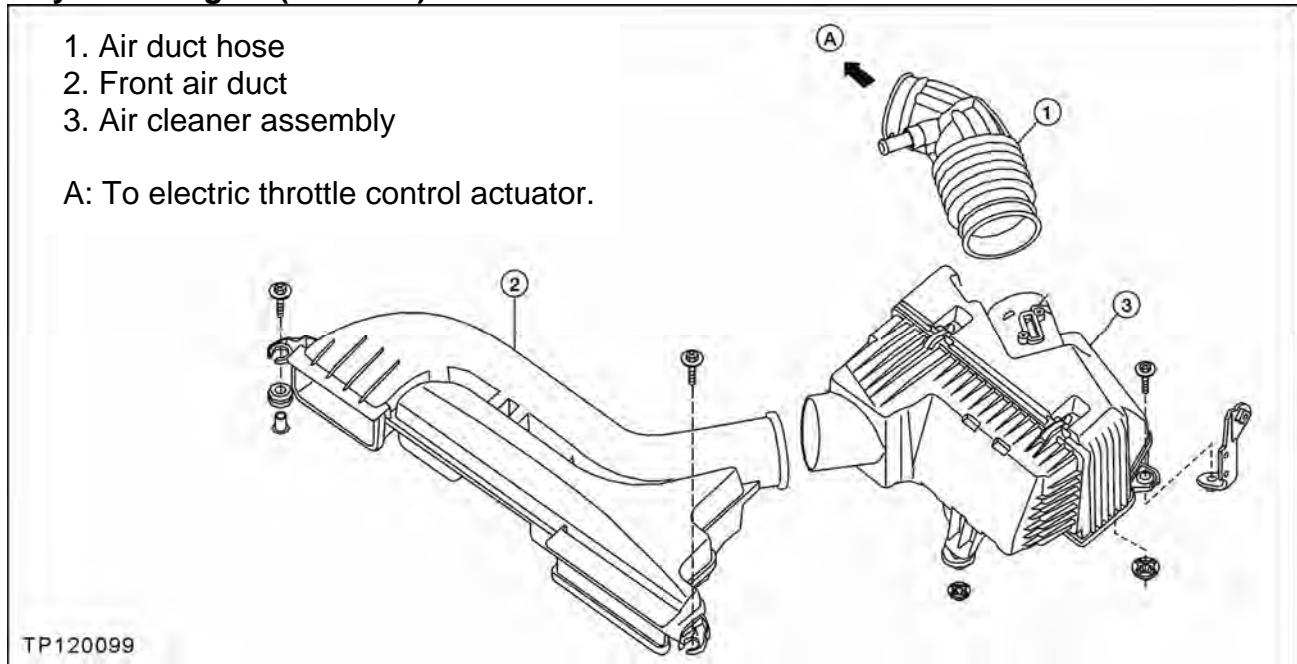
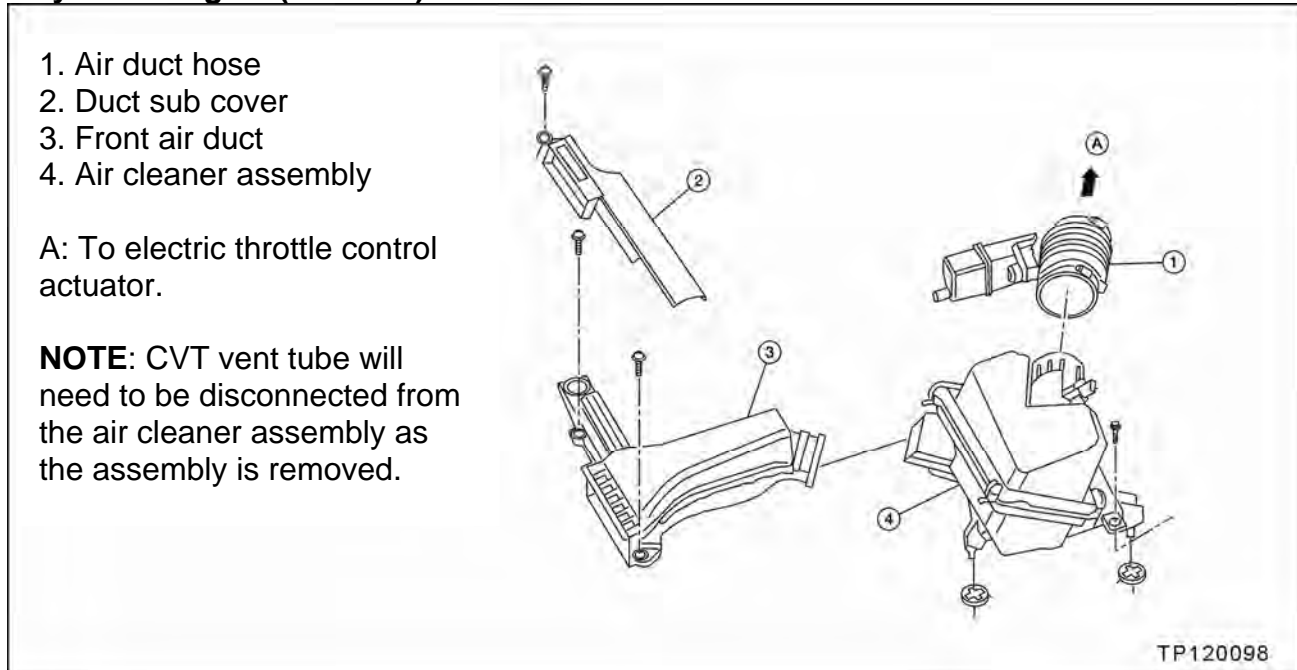

Figure 5
Figure 6
6. Remove the items shown in Figure 5 (4 cyl) or Figure 6 (6 cyl).
20. Re-install the items shown in Figure 5 (4 cyl) or Figure 6 (6 cyl).